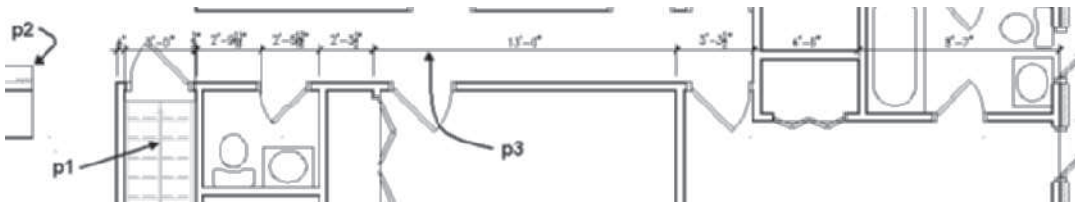

FIGURE 11.94 Walls selection for an AEC Dimension
Select Building Elements: (Choose the stair at p1 shown in Figure 11.94.)
12. An additional extension line can be added to the Interior dimension to specify the end of the wall at point p2 as shown in Figure 11.94. Select the Interior dimension and choose **Add Extension Lines** from the **Modify** panel of the AEC Dimension tab. Respond to the workspace prompts as follows:
Pick dimension points on screen to add: (Hold the SHIFT key down, right-click, and choose **Endpoint** to choose point p2 as shown in Figure 11.94.)